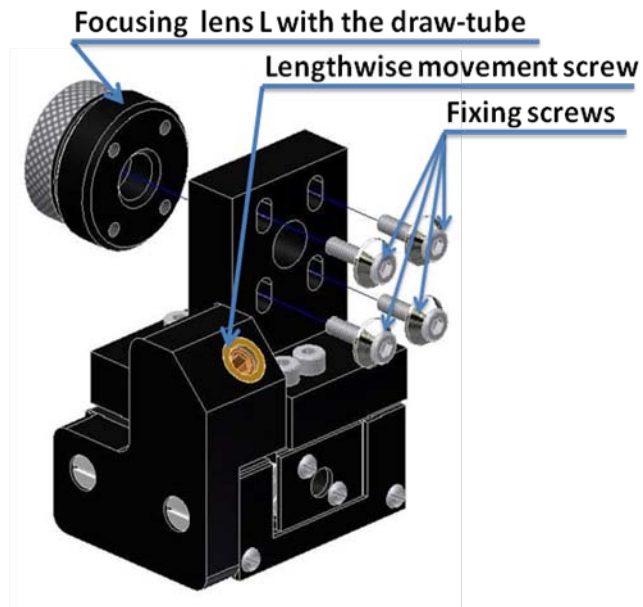

Fig. 7 Lens mount
10. Remove focusing lens L with the draw-tube from mount (**Fig. 7**).
- If the centers do not coincide then loosen, but do not remove, fixing screws (**Fig. 7**). Align the position of the lens with the draw-tube and then fix the screws.